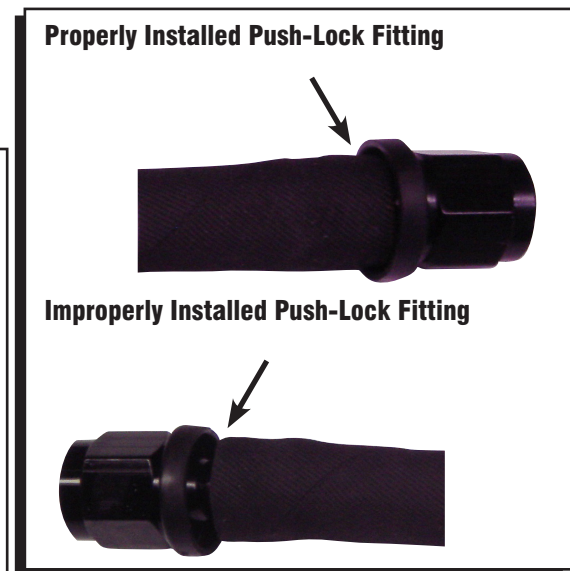

Figure 22 Installed Push-Lock Fitting.
4. With the fitting anchored securely, push the hose over the barbs. The hose is properly installed when it is flush with the thin edge of the beauty ring (Figure 22). At this